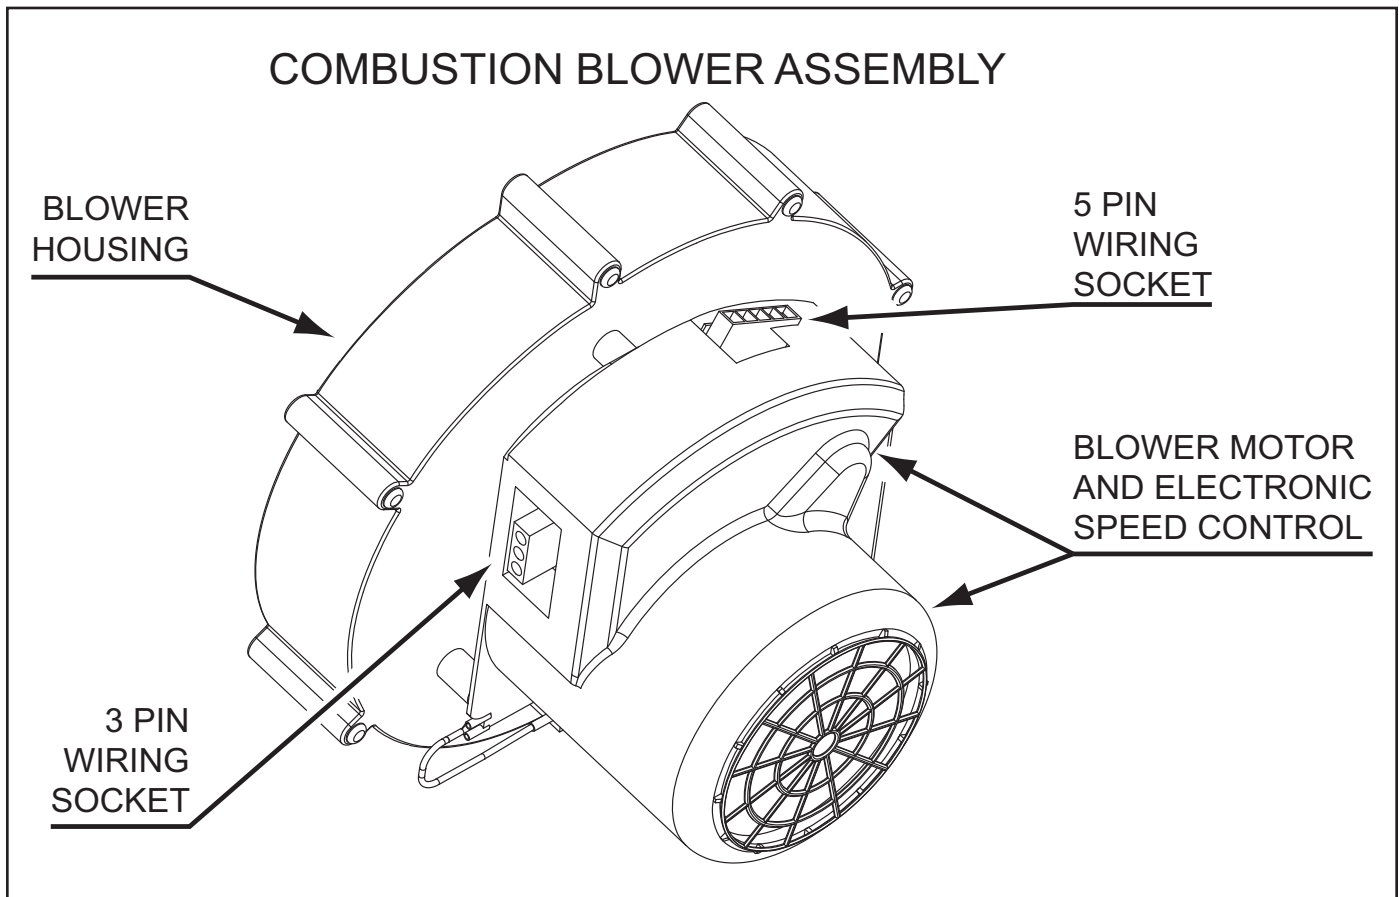

Figure 7
The CCB sends 120 VAC from the J2 socket on the CCB circuit board to a 3 pin wiring socket on the blower assembly, see CCB Circuit Board Layout on page 41 and Figure 7 below. The CCB also sends a PWM (Pulse Width Modulation) signal from the J13 socket to a 5 pin wiring socket on the assembly. The PWM signal is an electronic instruction to start, stop and control blower speed.
4. Disconnect the 3 pin plug from the Combustion Blower assembly, see Figure 7 on page 11.
5. Disconnect the 5 pin plug from the Combustion Blower assembly, see Figure 7 on page 11.